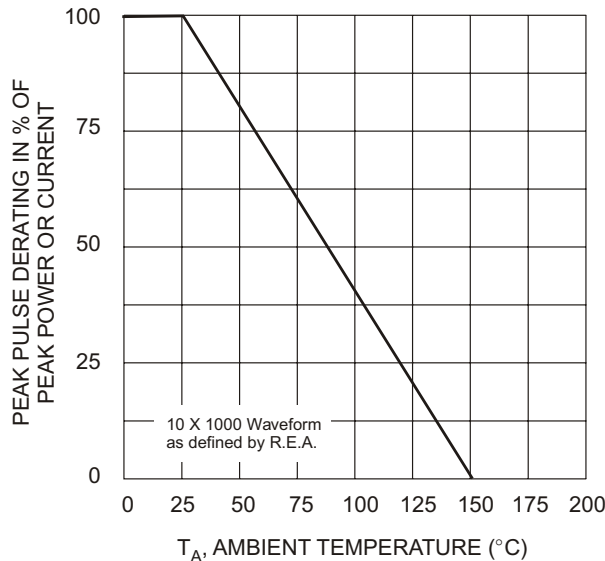
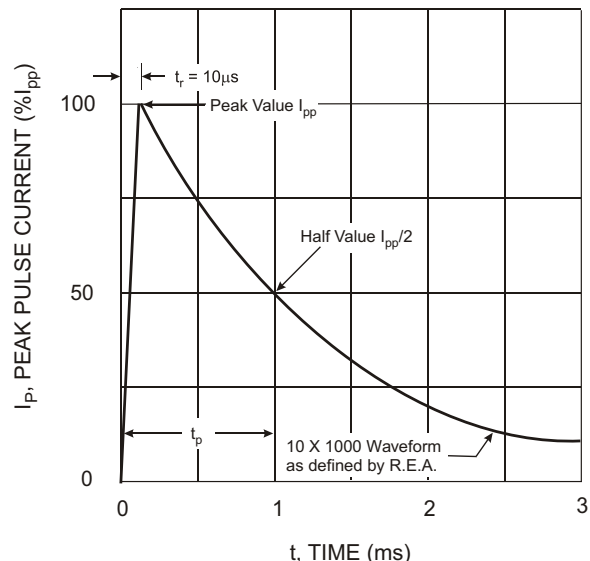

Fig. 1 Pulse Derating Curve
Fig. 2 Pulse Waveform
2. Non-repetitive current pulse per Figure 2 and derate above T_A = 25°C per Figure 1.